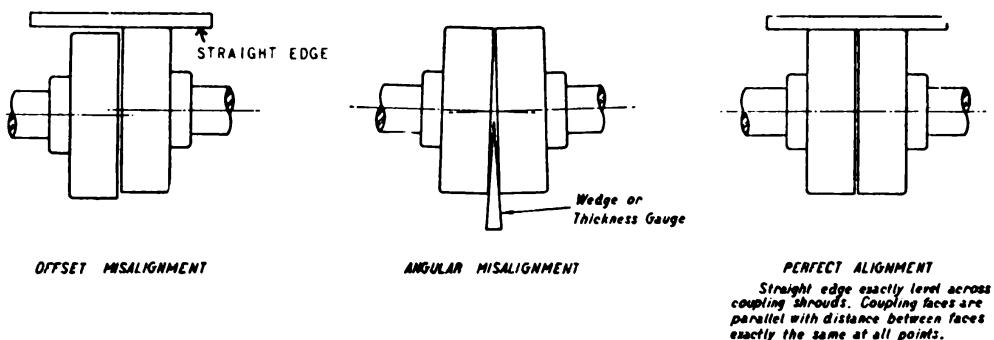

Figure 14—Check Alignment
(1) Remove Coupling chain.
(2) Place a straight edge (figure 14) across the face of the teeth of both halves of Coupling Pinions. This should be done at four points on the coupling separated approximately 90 degrees. The distance between the faces of the pinion halves should be checked at four points with a thickness gage.